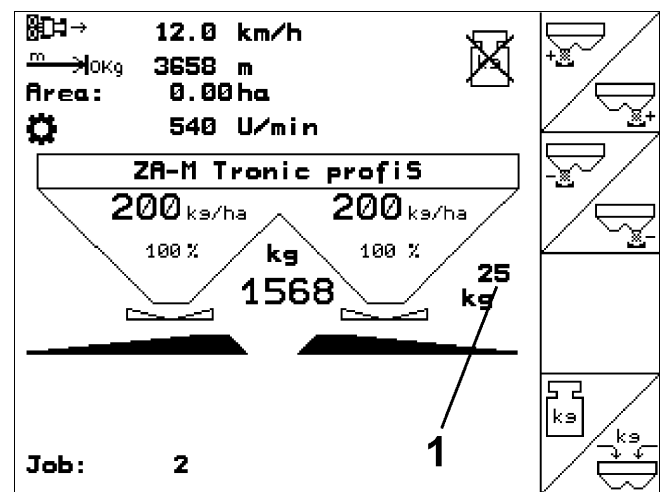

Fig. 38
- The amount of fertiliser spread will be shown in the operational menu (Fig. 38/1).